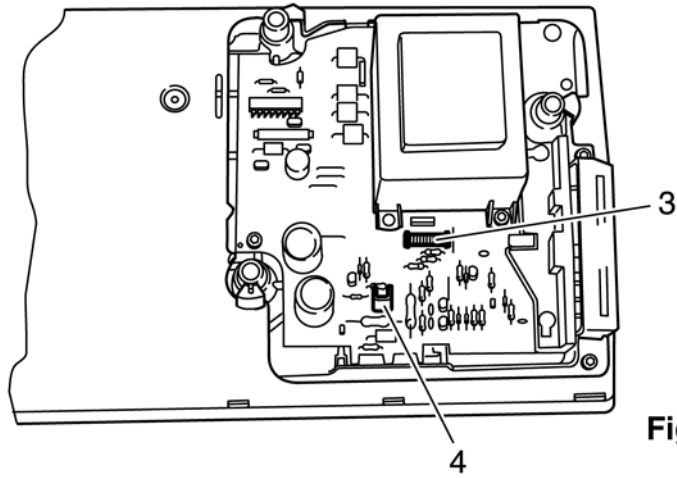

Fig. 111
- Tilt the base to the front and remove both connection plugs 3 and 4 (fig. 111).
- Mount both connection plugs 3 and 4 onto the circuit board of the base plate (fig. 111).